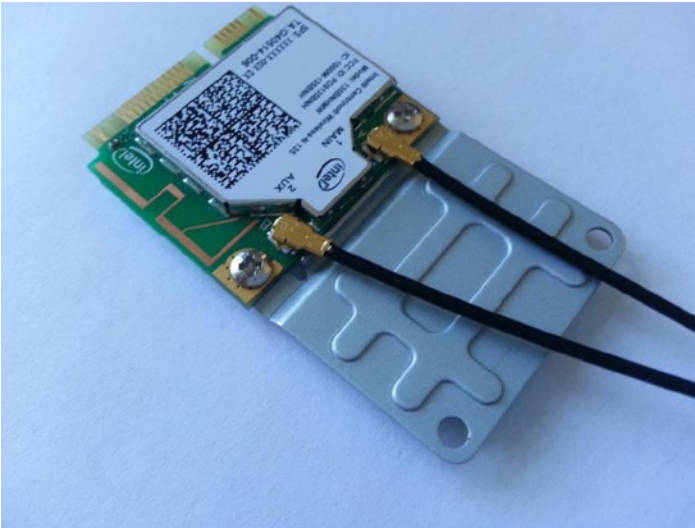

Figure 5-2. Antennas connected to the WiFi card
3. Connect the dual-band antennas in the card connector by pressing them down until you feel a small “click” in the connector. Check Figure 5-2 for reference.